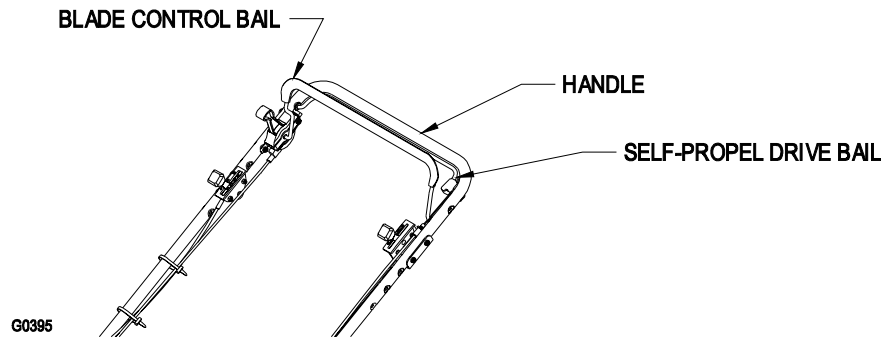

FIGURE 5
Located on the upper handle as shown in Figure 5. **When the blade control bail is depressed, the system senses that the operator is in the normal operator's position.**
Located on the upper handle as shown in Figure 5. When the self-propel drive bail is squeezed, the unit will move forward at the speed set on the speed control lever. When this bail is released the unit will stop moving.
3. Squeeze the drive bail against the handle (See Figure 5).
2. Squeeze the blade control bail against the handle (Fig. 5).